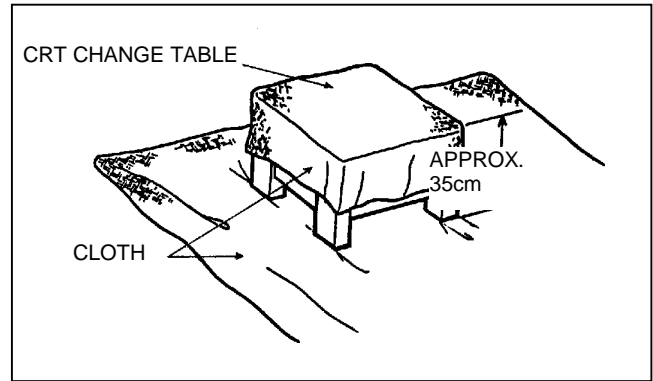

Fig. 5
1. Putting the CRT change table on soft cloth, the CRT change table should also be covered with such soft cloth (shown in Fig.5).